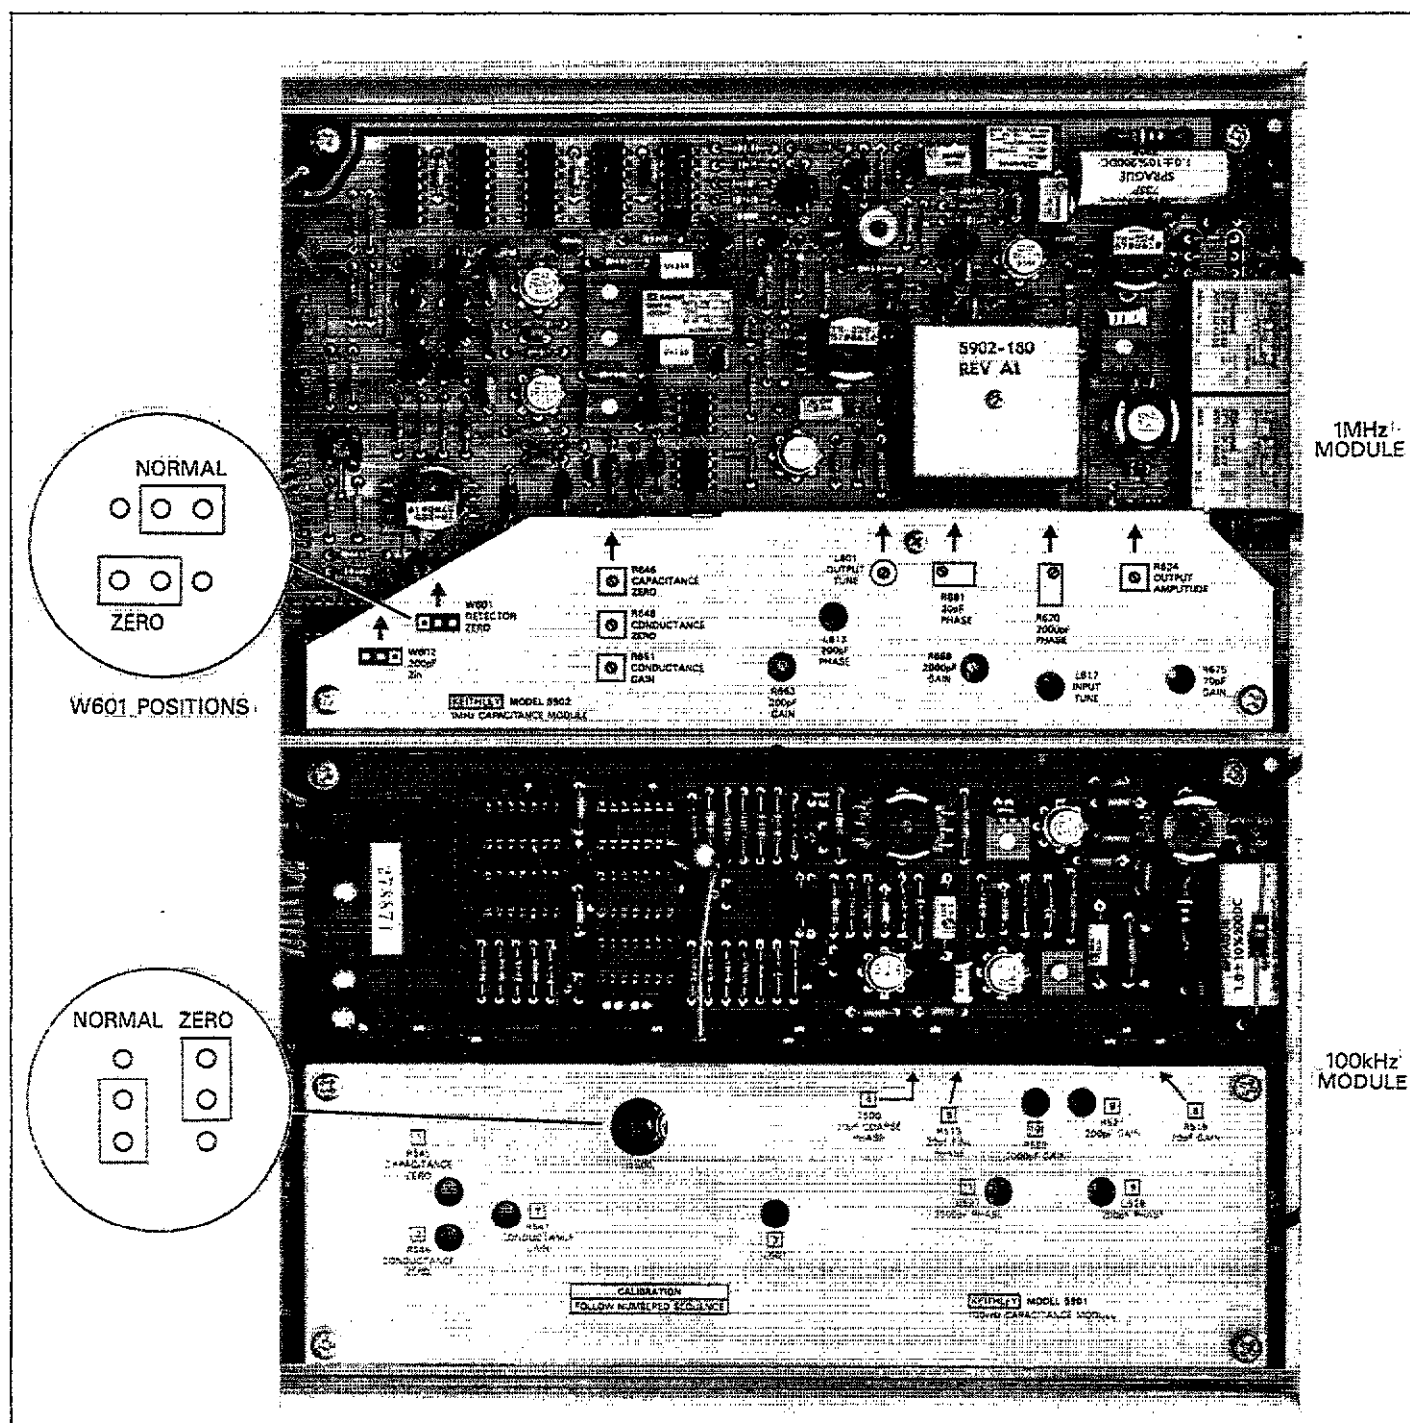

Figure 7-5. Module Calibration Adjustments
The calibration adjustments and jumpers are shown in Figure 7-5. Be sure to carry out the procedures in the order given here.
4. Change the position of jumper W500 to the ZERO position, as shown in Figure 7-5.
7. Return jumper W500 to its normal position, as shown in Figure 7-5.
4. Move jumper W601 to the ZERO position (see Figure 7-5).
8. Return jumper W601 to the normal position (see Figure 7-5).